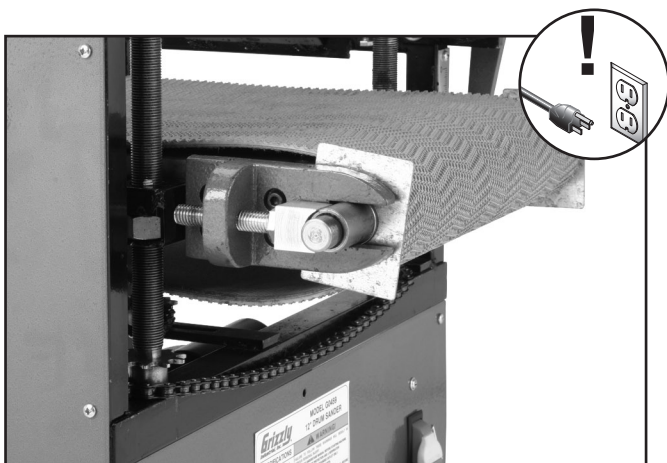

Figure 46. Conveyor belt loosened at the front adjustments (only one shown).
14. Loosen the conveyor belt at the front adjustments, as shown in **Figure 46**.